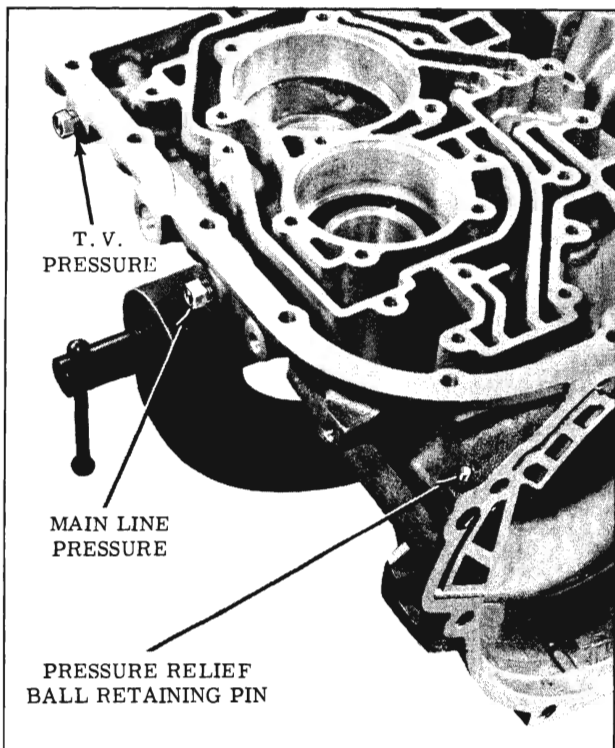

Fig. 3-253 Transmission Case
- 1. If pressure leak was indicated on diagnosis, replacement of the pressure relief ball or spring may be necessary. Pull the tapered pin then remove spring and ball check valve. (Fig. 3-253)
- 2. Remove two pressure take-off pipe plugs from transmission case. (Fig. 3-253)